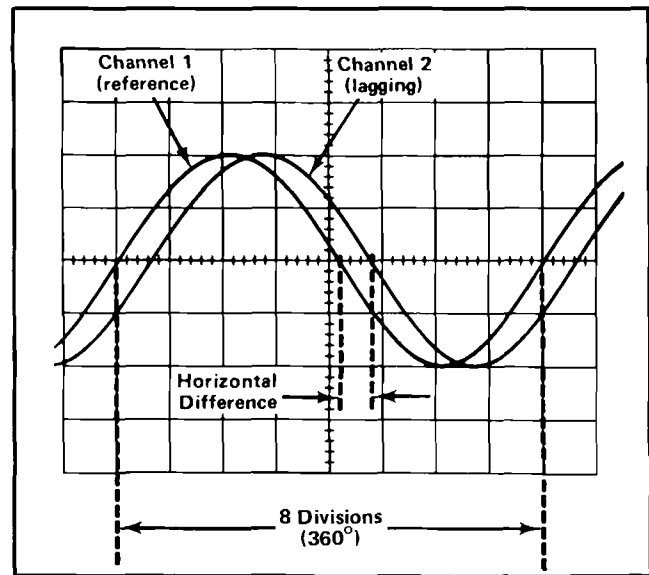
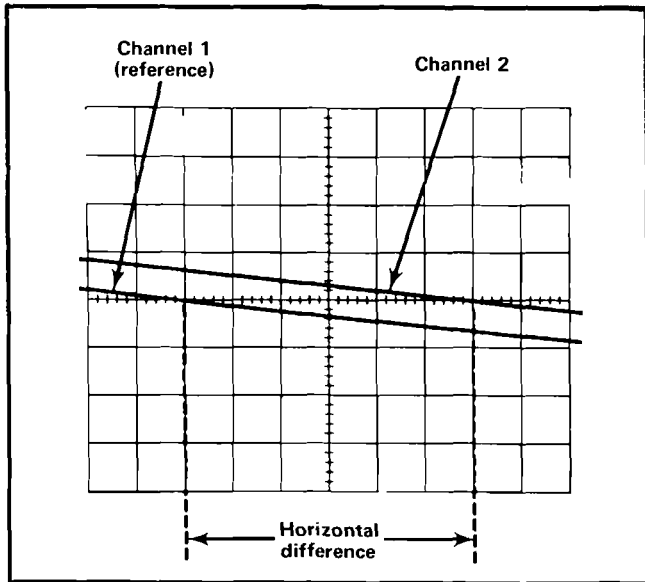

Fig. 2-4. Measuring phase difference between two signals.
Fig. 2-5. High resolution phase measurement using sweep magnifier.
8. Adjust the time-base Variable Sweep Rate until one cycle of the reference signal occupies exactly eight horizontal divisions between the second and tenth vertical lines of the graticule (see Fig. 2-4). Each division of the graticule represents 45° of the cycle ($360^\circ \div 8 \text{ divisions} = 45^\circ/\text{division}$). The sweep rate can now be stated in terms of degrees as 45°/division.
EXAMPLE: Assume a horizontal difference of 0.3 division with a sweep rate of 45°/division as shown in Fig. 2-4. Using the formula:
EXAMPLE: If the sweep rate is increased 10 times by the Magnifier, the magnified sweep rate is $45^\circ/\text{division} \div 10 = 4.5^\circ/\text{division}$. Fig. 2-5 shows the same signals as used in Fig. 2-4 but with the Magnifier set to X10. With a horizontal difference of 3 divisions, the phase difference is: